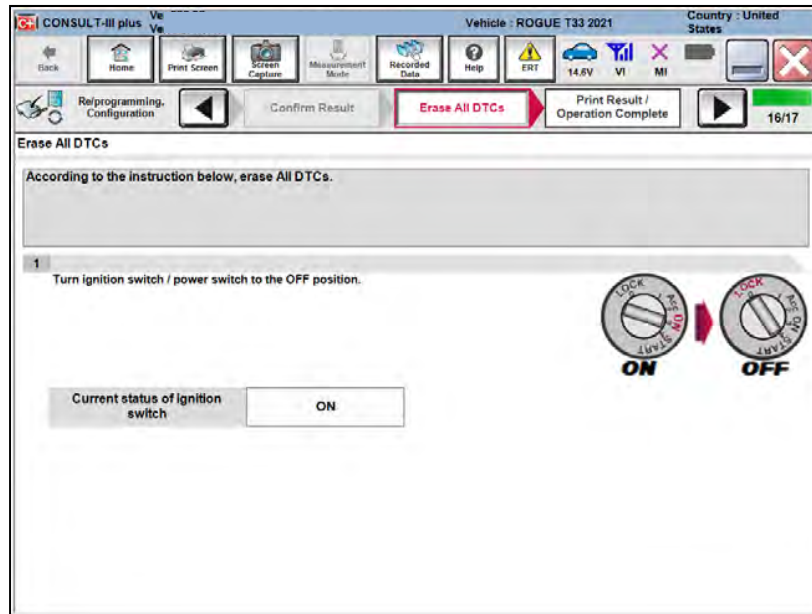
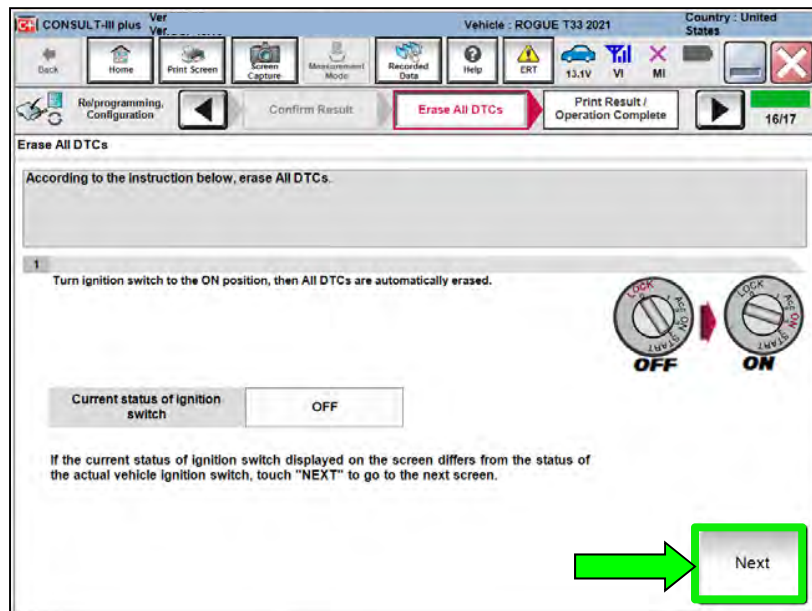

Figure 64
Figure 65
- Follow the on-screen instructions as shown in Figure 64 and Figure 65.